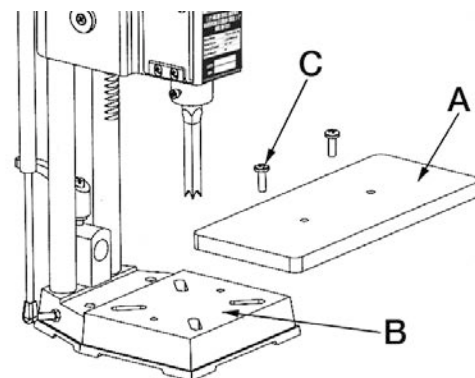

FIGURE 6
Position the wooden table (A) Fig.6 on the cast iron base (B), make sure the side of the table with the countersunk holes is facing upwards. Secure the table to the base using two screws (C).